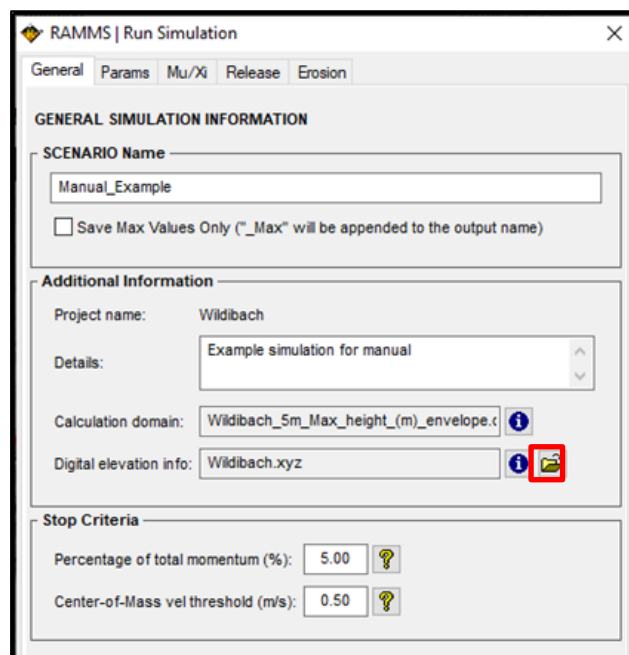

Figure 4-25: Select new XYZ-file with dam information.
- The new xyz-file, containing the deposition information, is created. To run a simulation based on this new xyz-file, just choose the xyz-file in the Run Simulation window, see Figure 4-25.